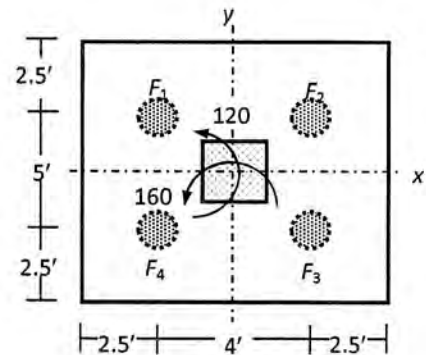

Fig: 6
7. Refer to the **Fig: 6**, A 24"x24" column carrying working loads of $DL = 300$ k, and $LL = 180$ k is underlain by soil with allowable bearing capacity = 2 ksf. The column also carries biaxial moments (due to LL) of $M_x = 120$ k-ft and $M_y = 160$ k-ft. Design the pile foundation by WSD method. [Given: $f'_c = 3$ ksi, $f_y = 50$ ksi, $\alpha_2 = 0.8$].